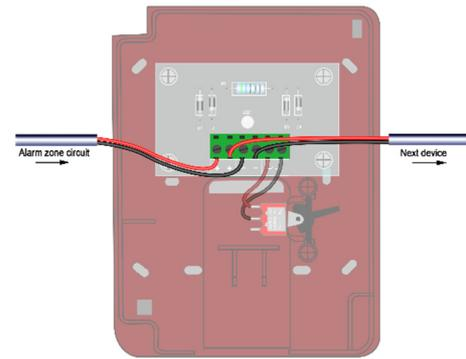

Fig. 2: 463 wiring connections
2. Connect the conductors to the terminals as shown in Fig. 2.